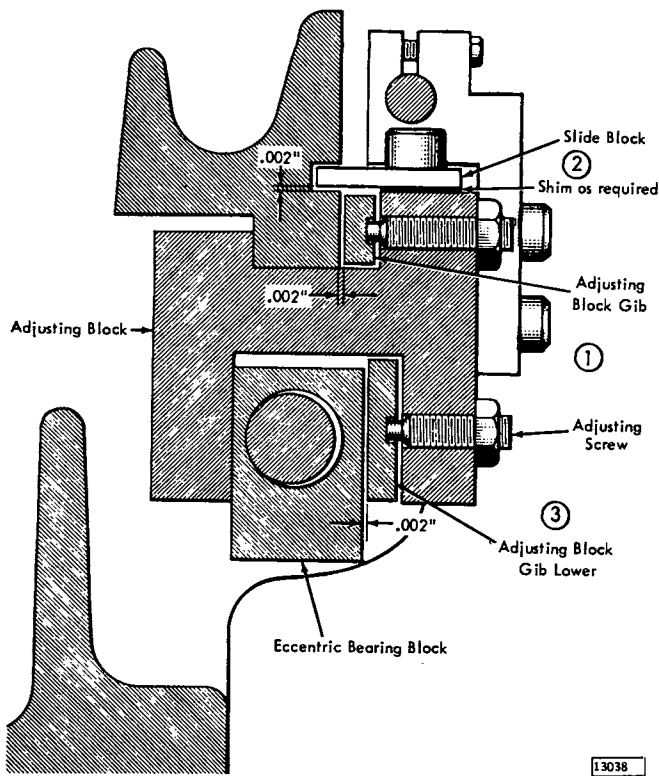

Figure 4-19. Carriage Gibs and Blocks
1. By means of the adjusting screws, position the adjusting block gibs for a 0.002" maximum clearance with the carriage frame (Figure 4-19).
2. To limit the up and down movement of the carriage, the slide block is positioned with a 0.002" maximum clearance to the carriage frame (Figure 4-19). Shim as required.
3. By means of the adjusting screws, position the adjusting block gib lower for a 0.002" maximum clearance to the eccentric bearing block (Figure 4-19).